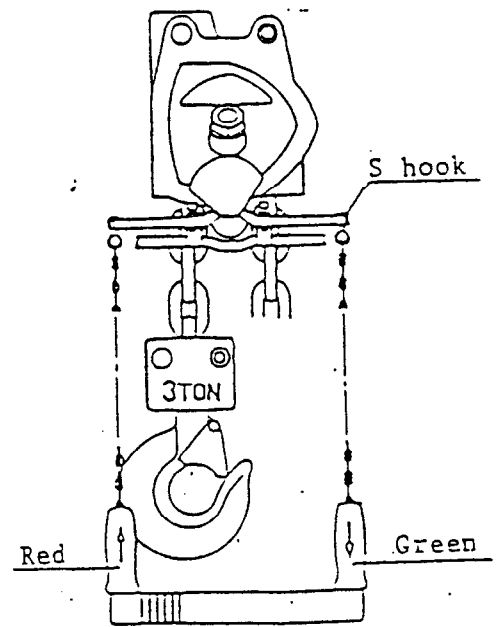

Fig. 1
- In case of using control handle (pull rope) (Fig. 1);